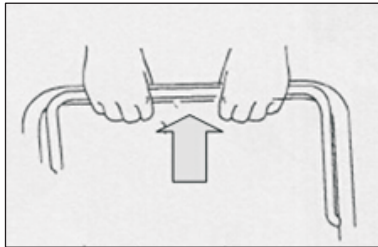

Fig 2A
a) Standing behind the unit, grasp the brake control handle and hold it against the upper handle. (Fig 2A )